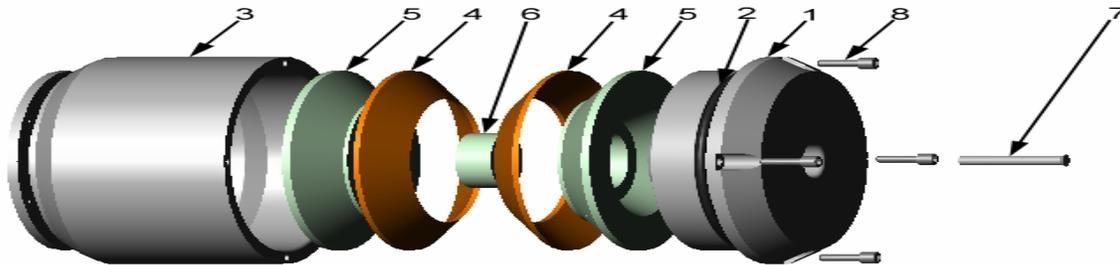

Figure 3: CUT-5500-062NT - Exploded View
- 2.12** Insert the Booster Cartridge (item #7) through the hole in the explosive assembly until the flared end seats in the Cap, see Figure 3.